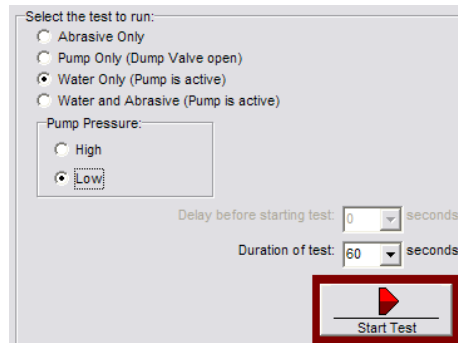

Figure 4-19: Pump and Nozzle Test Options
- b. Select **Water Only (Pump is active)** and **Low**, then click **Start Test** (Figure 4-19).
- a. If necessary, click the **Test** button to again display the nozzle test options (refer back to Figure 4-19).
- b. Select **Water Only (Pump is active)** and **High**, then click **Start Test** (see Figure 4-19 for options).
- a. If necessary, click the **Test** button to display the nozzle test options (refer back to Figure 4-19).
- b. Select **High**, then click **Water and Abrasive** to begin the test (see Figure 4-19).
- c. Click the **Test** button to display the nozzle test options (refer back to Figure 4-19).